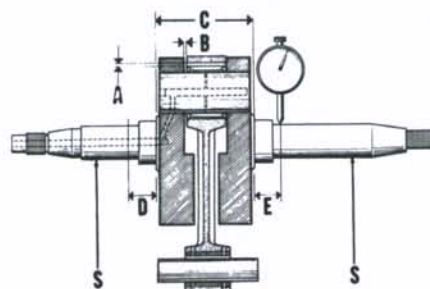

Fig. BE2-9—Refer to text for crankshaft and connecting rod specifications. Crankshaft should be supported near ends as shown at (S).
wheel and pressing the crankpin out. Connecting rod side play (B—Fig. BE2-9) should be 0.004-0.006 inch with wear limit of 0.0157 inch. Connecting rod to crankpin clearance (A) should be 0.0004-0.0008 inch and wear limit is 0.002 inch. Crankshaft eccentricity is measured 20mm (0.787 inch) from machined surfaces of flywheels as shown at (D & E). Maximum allowable eccentricity is 0.0008 inch. Distance (C) between the machined surfaces of flywheels should be 56.120-56.190mm (2.2087-2.2115 inch) as shown at (C). When assembling crankshaft, make certain that oil passage in crankpin is aligned with passage in the right fly-wheel.